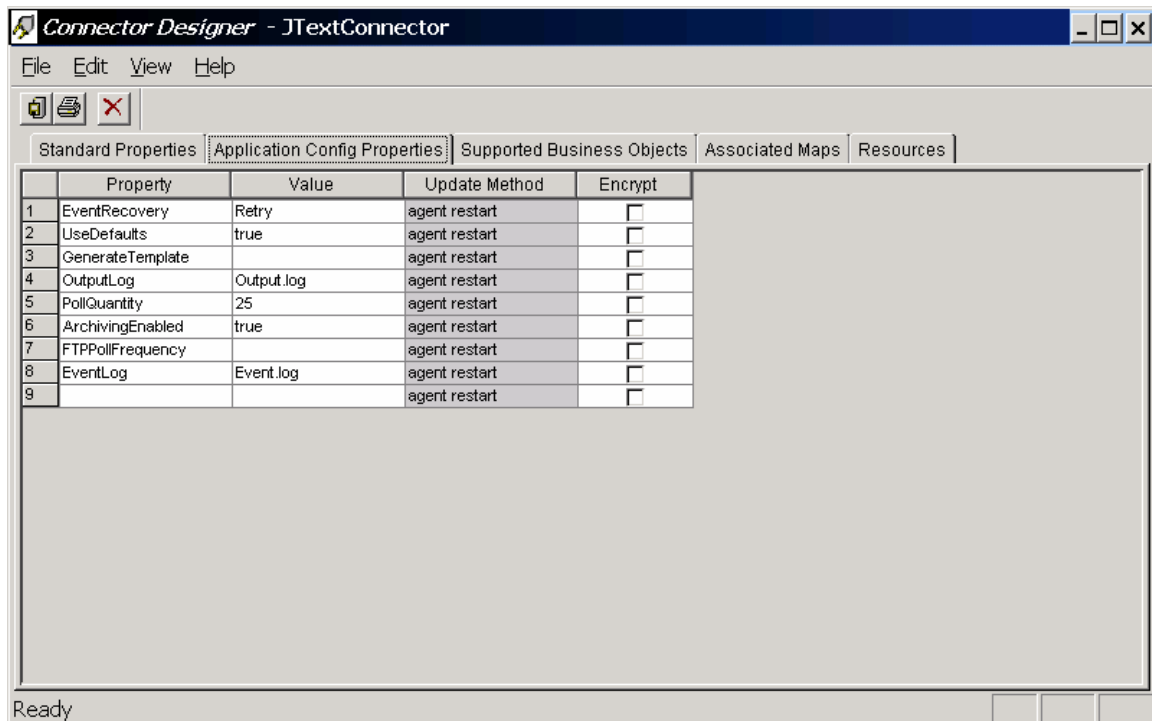

Figure 17. Sample JText adapter configuration
1. Install and configure the JText Adapter. See Figure 17 for a sample of configuring the adapter.